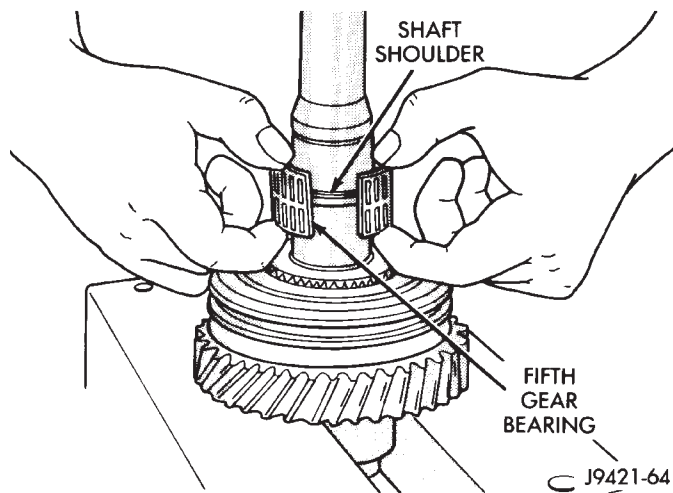

Fig. 59 Installing Fifth Gear Bearing
(11) Install fifth gear bearing. Spread bearing only enough to clear shoulder on output shaft (Fig. 59). Be sure bearing is properly seated after installation.